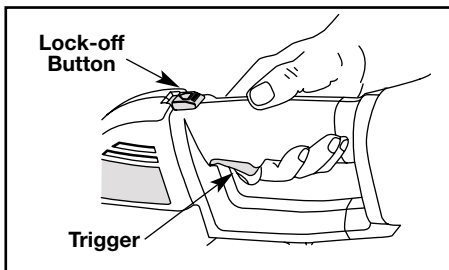

Fig. 10
5. To stop grass shears, release the lock-off button and the trigger (Fig. 10).